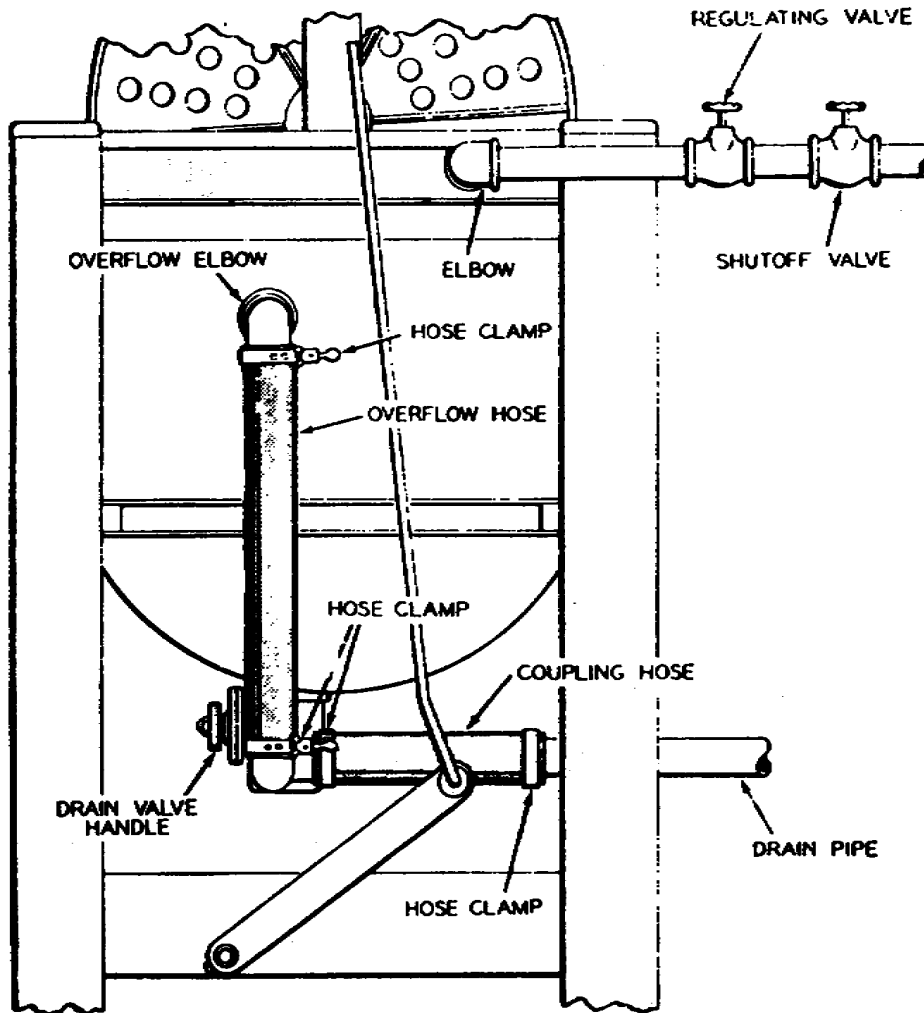

FIGURE 3-2. Plumbing diagram for Washer EK-1.
3-4 Plumbing Connections (figure 3-2)
b. Drain valve. The drain valve (figure 3-2) is used to empty the tank after operation (para 3-11). Turn the valve handle counterclockwise to open the valve and clockwise to close the valve.
(1) Drain hypo from prints before washing them to decrease washing time.
(2) Close the drain valve (figure 3-2).
(3) Open the water shut-off valve (figure 3-2) and allow the tank to fill to overflow. Leave the valve from one-half to three-quarters open to maintain a continuous flow of fresh water.
(1) Remove all prints from the washer (c above).
(2) Turn off the shut-off valve (figure 3-2).
(3) Open the drain valve (figure 3-2) to drain the tank.
(4) Wipe the tank and cylinder with a clean dry cloth.